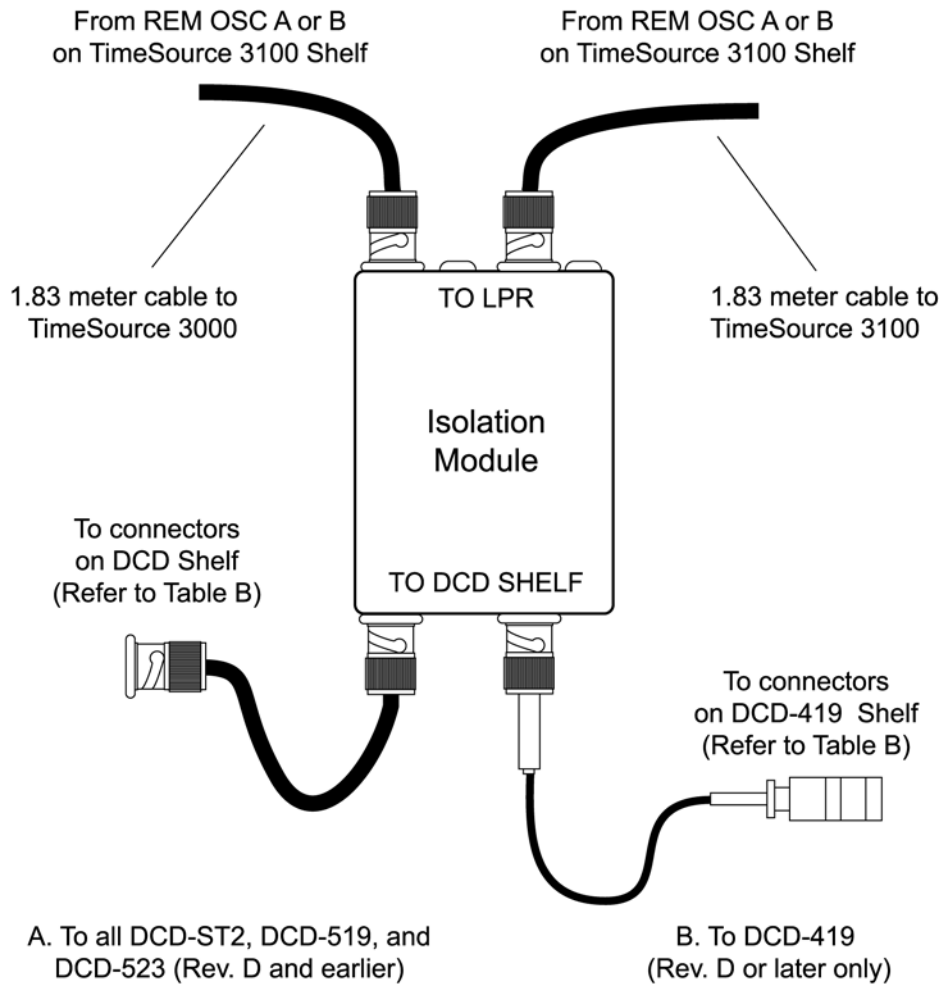

Figure 3-12. DCD Shelf, Isolation Module, and TimeSource 3100 Connections
2. Use the provided 0.61 meter coax cable to connect from the appropriate A connector on the DCD Shelf backplane to the TO DCD SHELF end of the isolation module (refer to Table 3-1 and Figure 3-12).
3. Use the 1.83 meter coax cable to connect the REM OSC A connector on the TimeSource 3100 Shelf to the TO LPR end of the isolation module (refer to Figure 3-12).